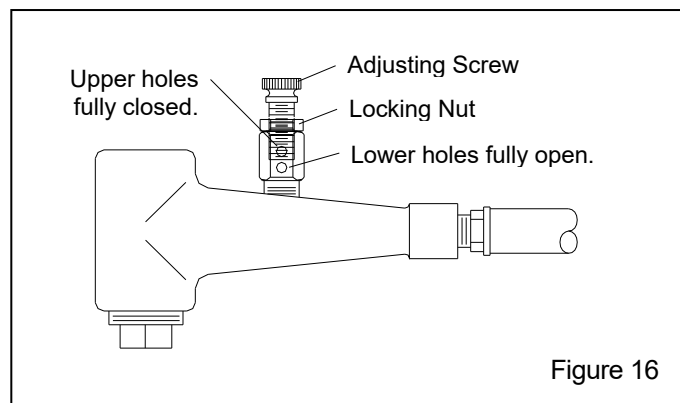

Figure 16
5.3 Media-Air Mixture, Figure 16
5.3.2 If media does not flow smoothly, loosen the locking nut, and adjust the metering screw until the upper holes in the metering stem are closed off and the lower holes are fully open, as shown in Figure 16. This adjustment is a starting point.